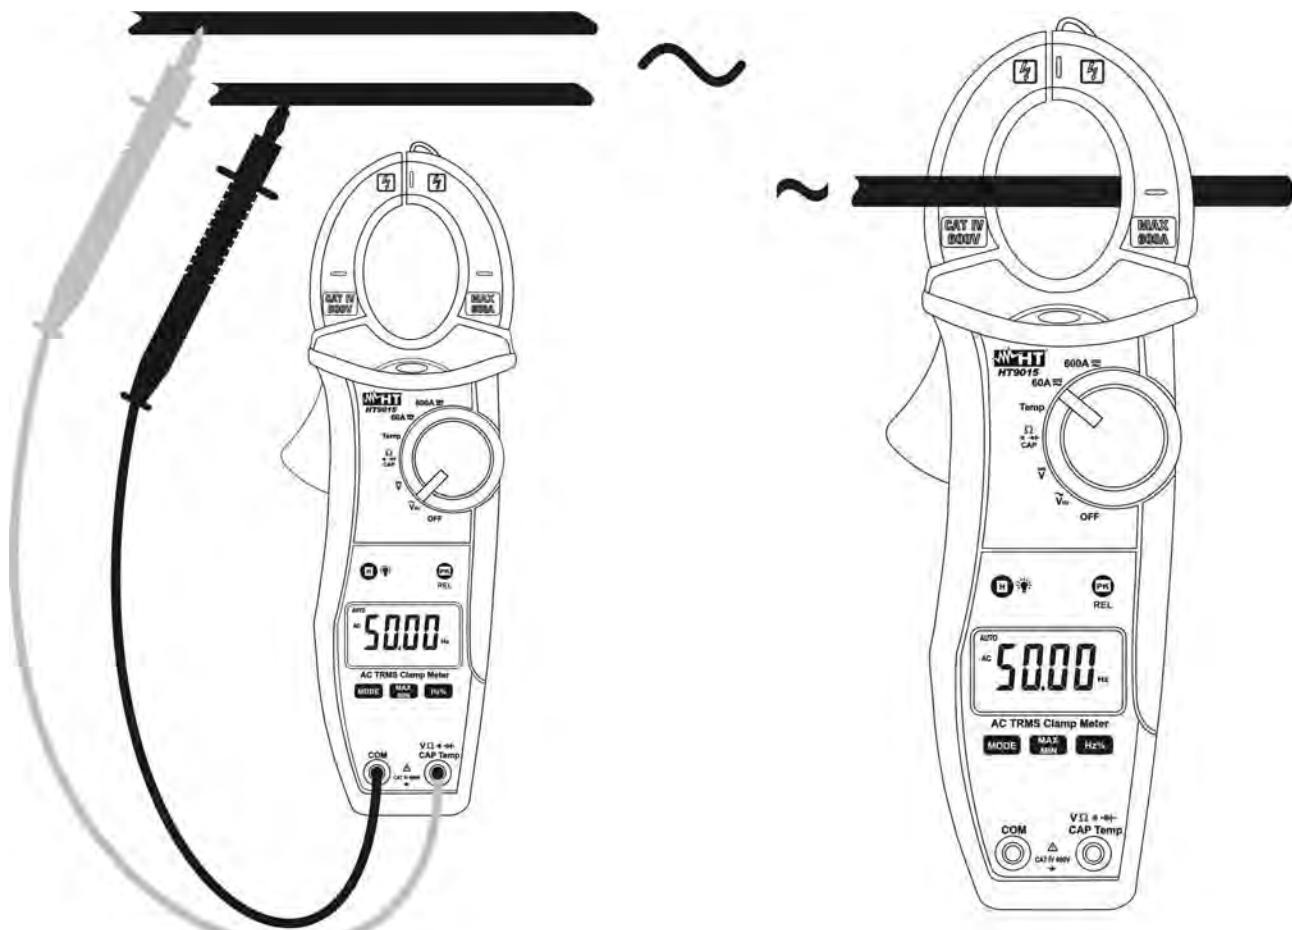

Fig. 10: Taking frequency and duty cycle measurements
3. Insert the red test lead plug into **VΩ \rightarrow CAPHz%Temp** jack and the black test lead plug into **COM** jack (see Fig. 10 – left side) for frequency measurement with test leads. Open the clamp and put the conductor to be tested in the middle of the clamp jaw (see Fig. 10 – right side) for frequency measurements with jaws, then reading will be displayed. Bargraph is disabled in frequency and duty cycle test